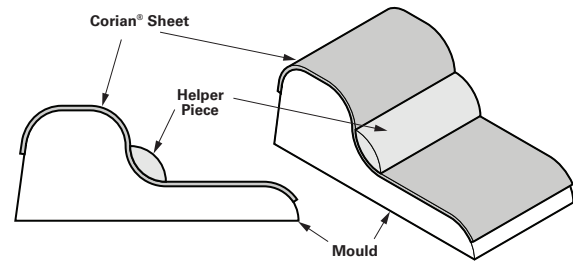

Figure D-3
work with the vacuum membrane to help forming in difficult spots as shown in Figure D-3.
- Use helper pieces such as in Figure D-3. The membrane will not have to stretch as much.